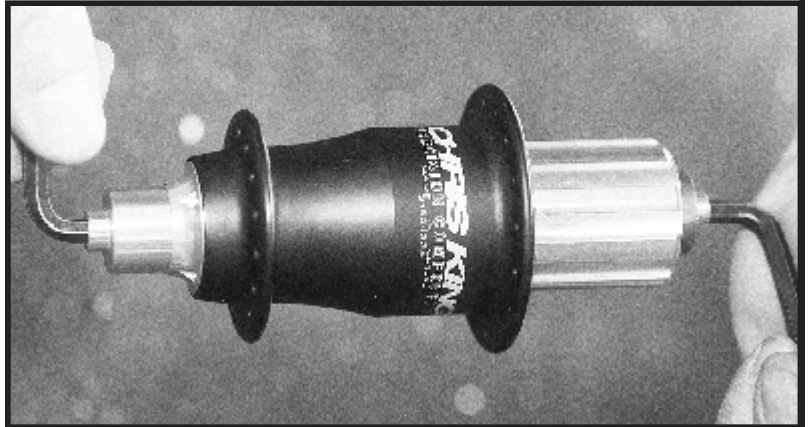

Figure 21 - disassemble main axle
2. Insert 5 mm hex wrenches into both ends of axle assembly. (See figure 21.) ***Pro Tip: Use a bench vice to hold one of the 5mm hex wrenches.**